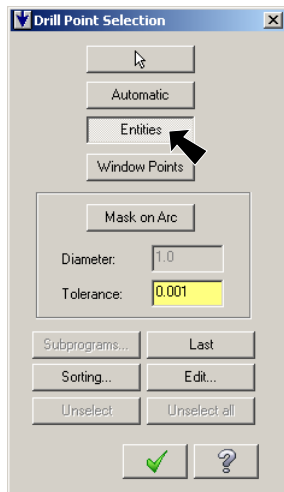

Fig. 93
Step 3. Click **Entities** button in Drill Point Selection dialog box, **Fig. 93**.